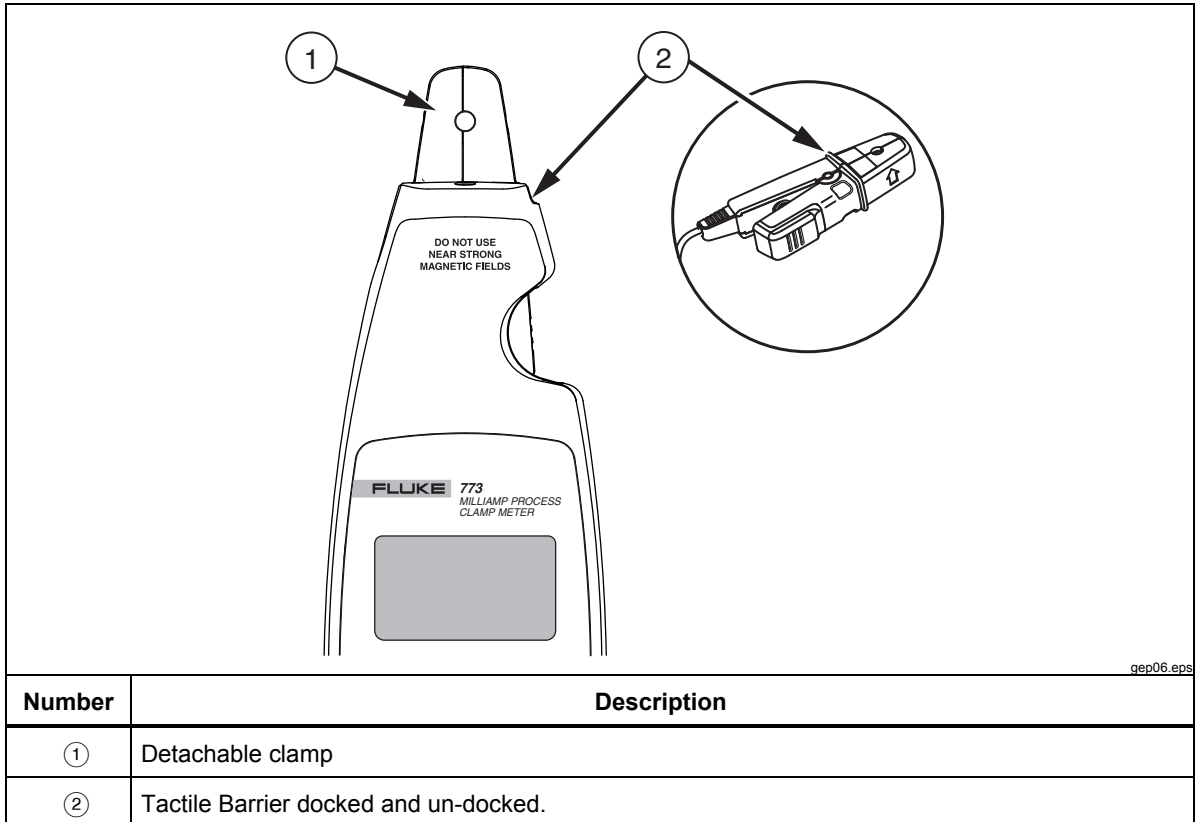

Figure 1. Tactile Barrier
- When you measure, keep your fingers behind the Tactile Barrier. See Figure 1.